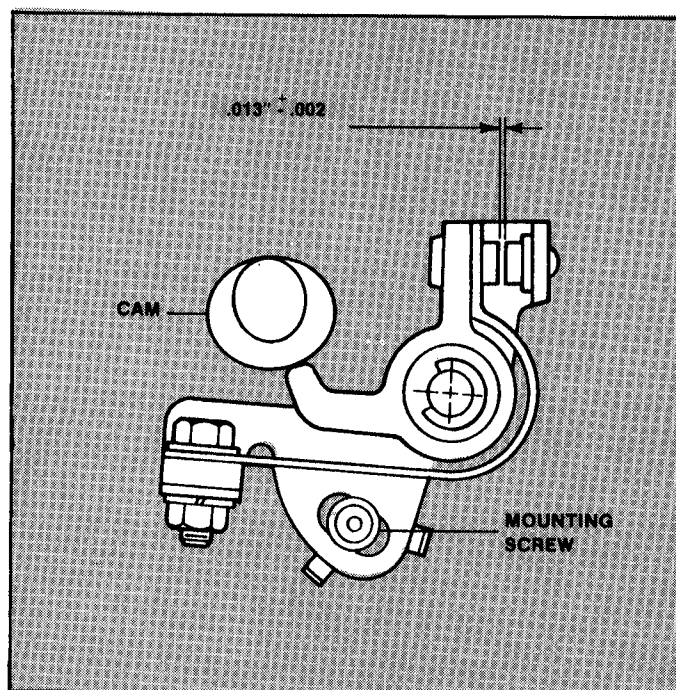

FIGURE 6.1
- C. Adjust point gap to .011/.015 when point leg is located on high point of cam. See Figure 6.1.